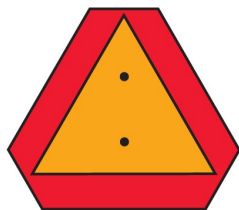

Figure 3-13: SMV Sign
12. Transport during daylight hours whenever possible. Always use flashing warning lights, except where such use is prohibited by law. Make sure lights, reflectors and SMV emblem are clearly visible and operating. Remove any obstructions such as dirt, mud, stalks or residue that restricts view before transporting. **See Figure 3-13.**